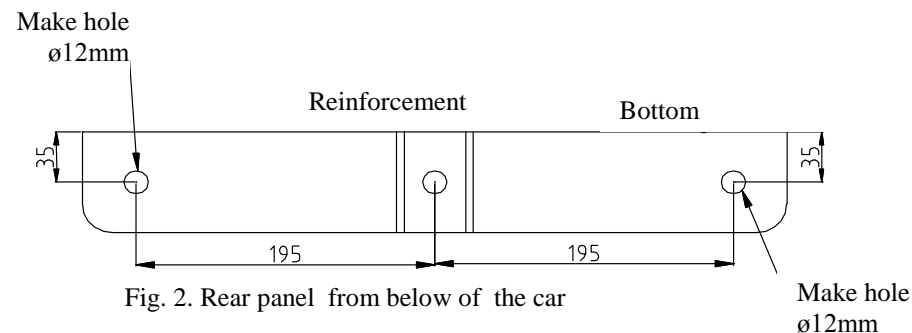

Fig. 2. Rear panel from below of the car
2. Drill two holes $\varnothing 12$ mm in the rear panel at the bottom of the car (see fig.2).
3. Position the element (pos. 1) to the chassis and fix it through the just made holes and towbars holes (pos. A) using M10x30mm pos. 10 (use also washers $\varnothing 42$ mm)
4. Drill $\varnothing 12$ mm through the towbars holes (pos. B) to the inside part of the boot, then position the elements (pos. 5) in the boot and fix it together using M10x30mm (pos. 10)